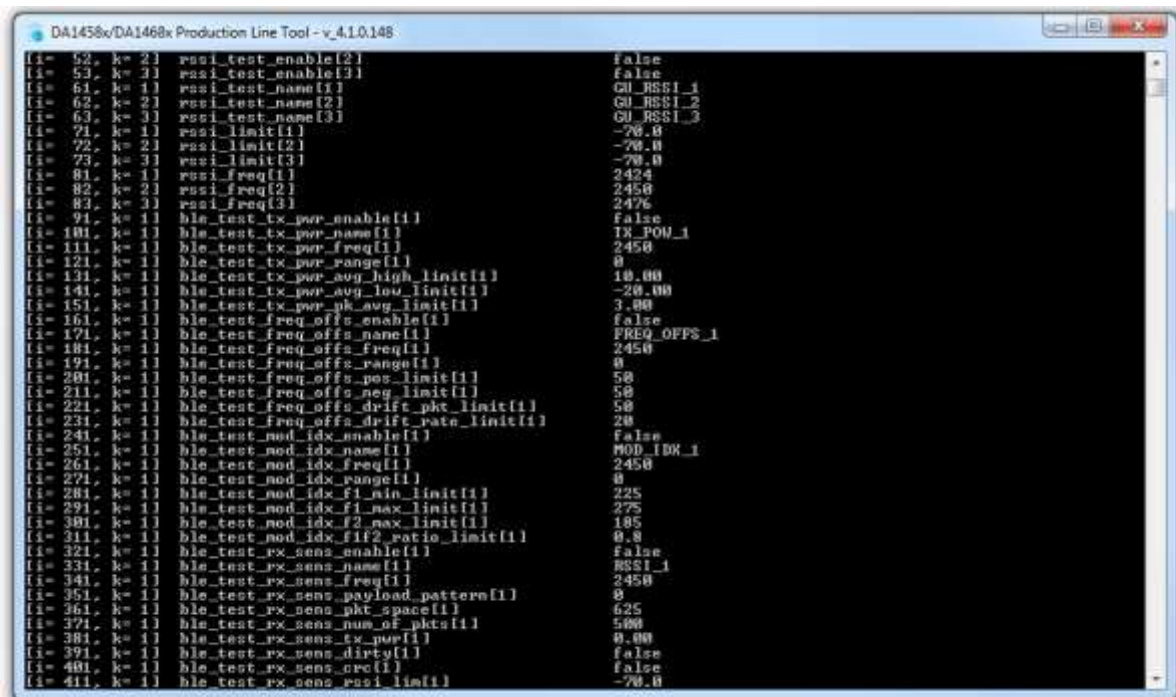

Figure 125: CLI PLT print settings (x command)
- Because the configuration file is automatically loaded, use the 'x' command (Figure 125) to see the loaded settings. Errors will be shown in red.